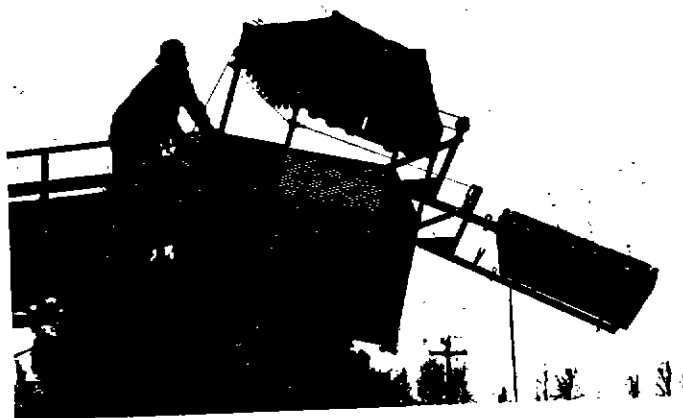

Fig. 25
- (1) Fit the holes in the sign ears over the pins on the bottom cross support bar. *Snap key the pins.*
- (2) Plug in sign to receptacle.
- c. Using the winch, slowly crank the sign up into position. (Fig. 25)